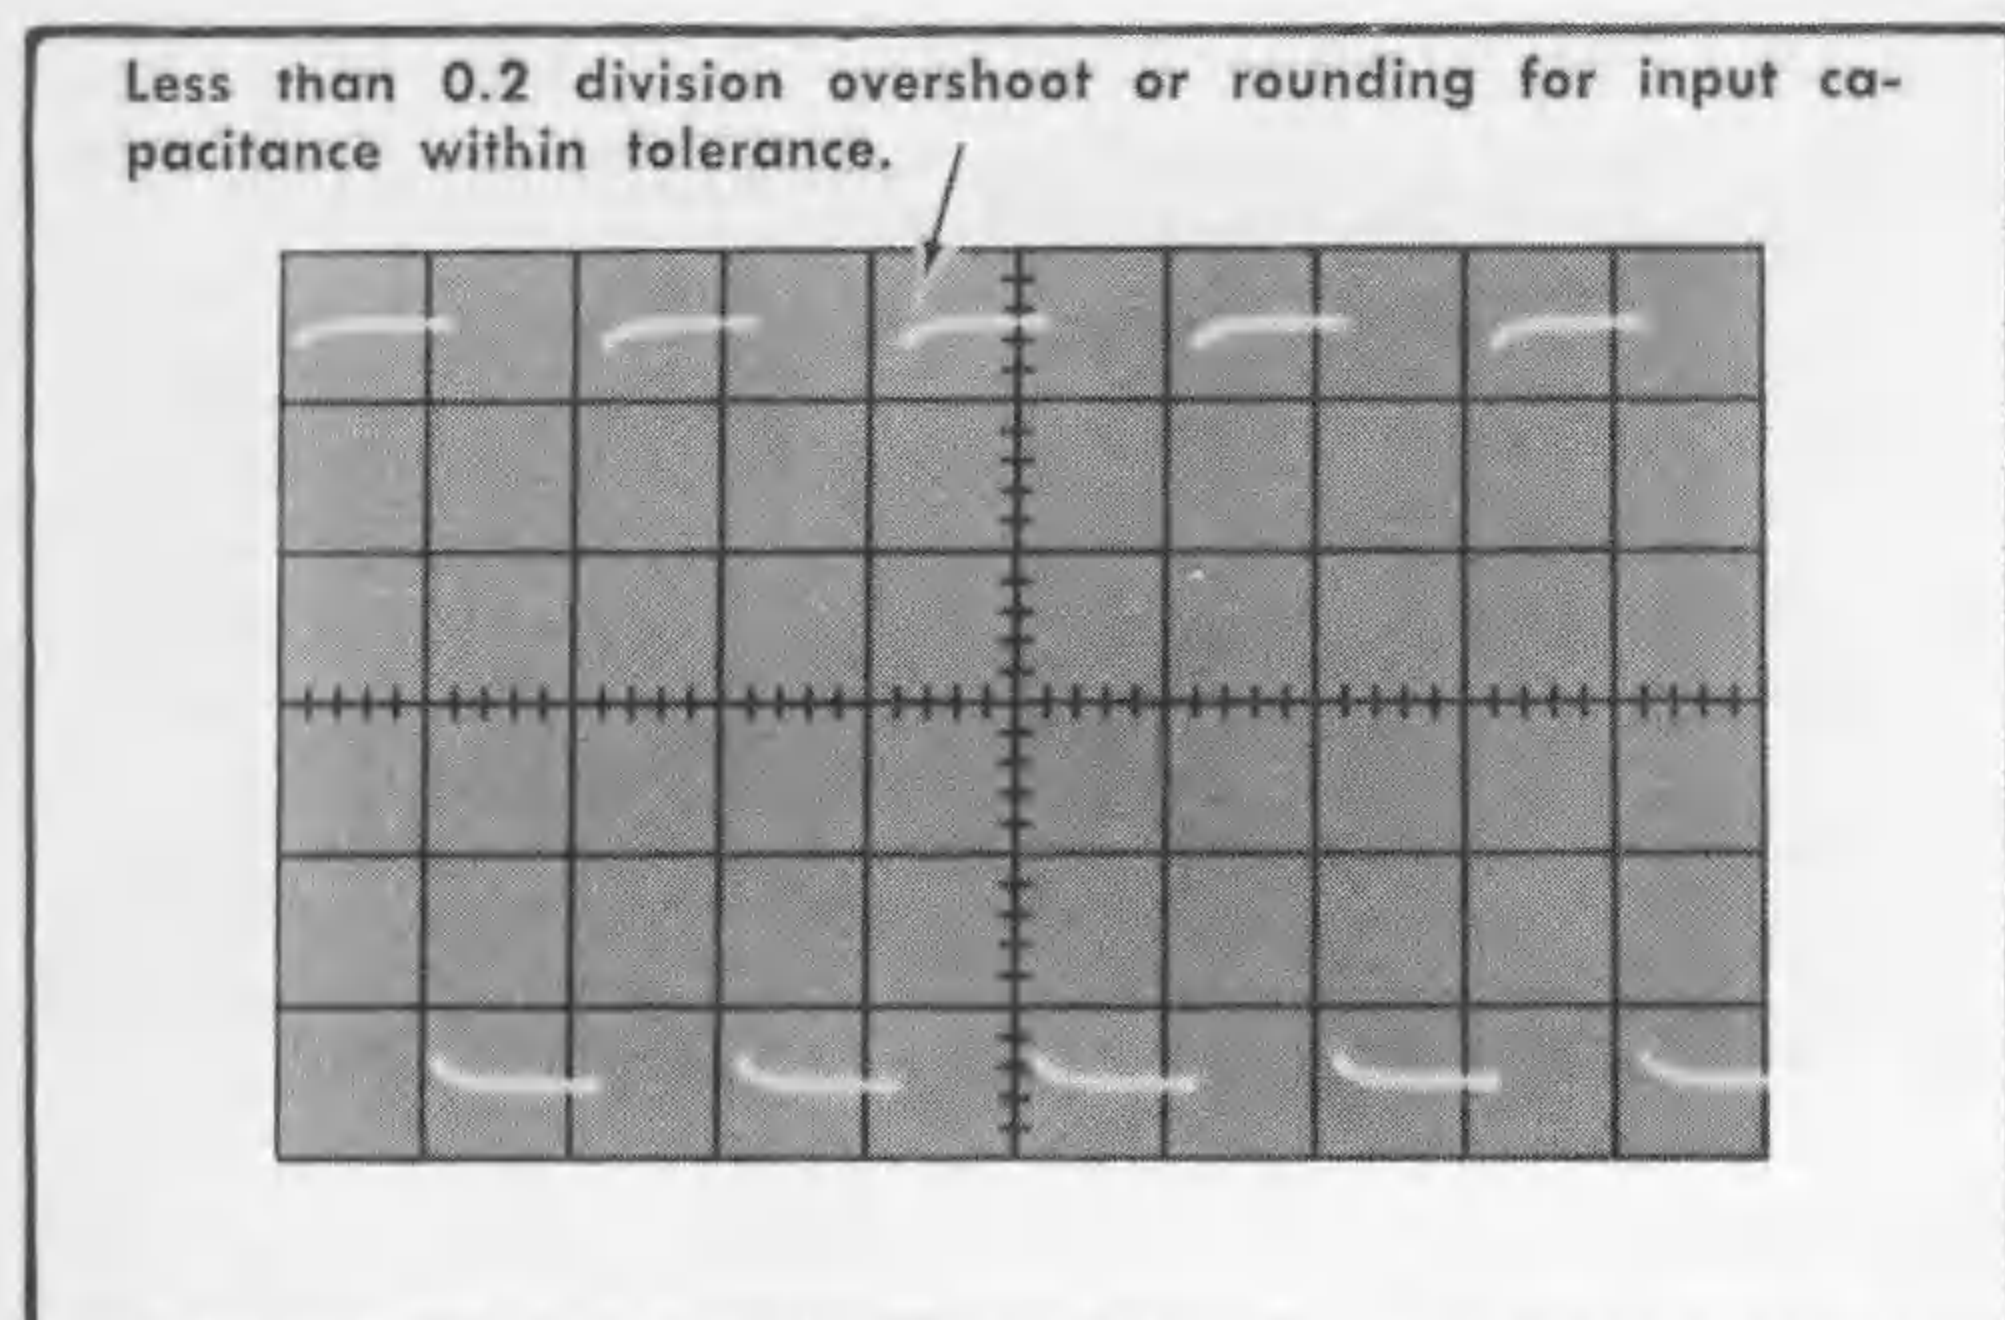

Fig. 5-9. Typical CRT display when checking input capacitance.
e. CHECK—CRT display for 0.2 division, or less, overshoot or rounding (47 pF,  $\pm 4$  pF; see Fig. 5-9).